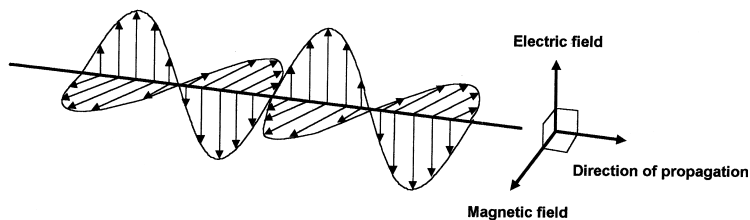

Figure 13.2 Amplitude and frequency modulation
As with light, radio waves propagate outwards from a source of energy (transmitter) and comprise electric (E) and magnetic (H) fields at right angles to one another. These two components, the **E-field** and the **H-field**, are inseparable. The resulting wave travels away from the source with the E and H lines mutually at right angles to the direction of **propagation**, as shown in Fig. 13.2.